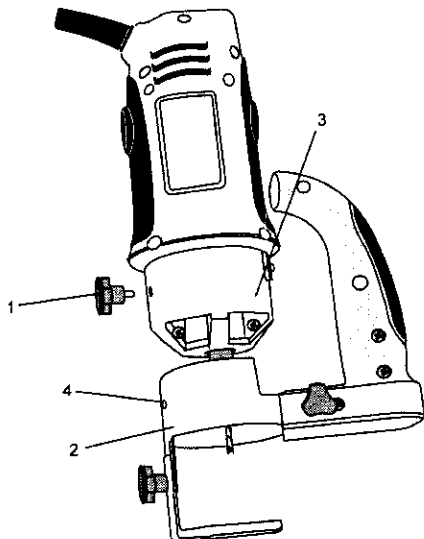

Fig. 10
1. Remove accessory locking knob (1) from the base of the cutting tool motor housing (see Fig. 10). Slide precision handle mounting bracket (2) onto the bottom of motor housing (3) until the mounting hole (4) lines up with the hole in the motor housing.